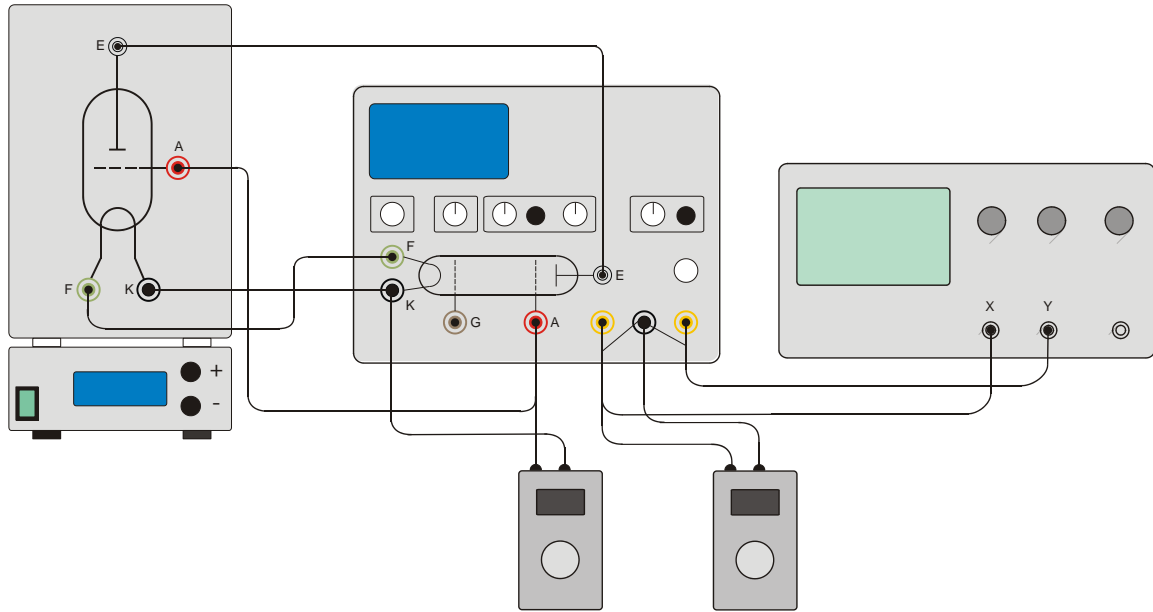

Fig. 3 Experiment set-up for Franck-Hertz tube with 2 digital voltmeters
- Connect a digital voltmeter between the signal output (U_x) and the ground socket (refer to fig. 3).